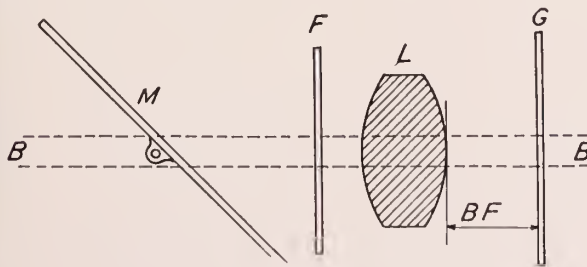

Fig. 1
1. Mount in succession on optical bench B. B. Fig. 1, adjustable mirror, M, sunlight filter, F, test lens, L, and ground glass, G. Move G to sharp sun image and measure background, BF.